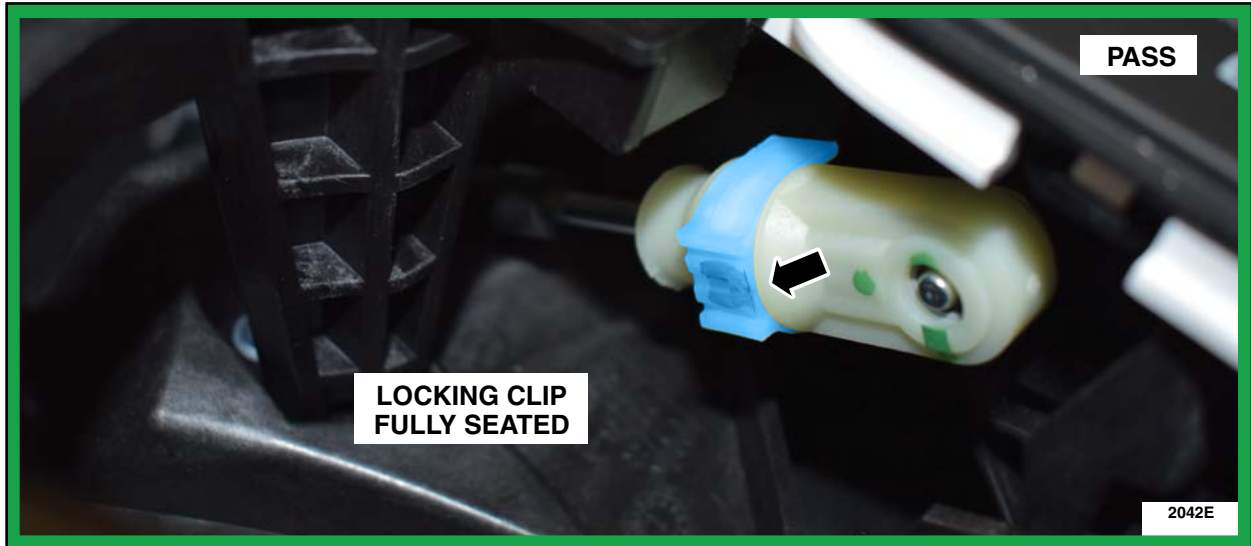

FIGURE 8
9. Inspect the selector lever cable adjuster locking clip to ensure it is fully seated. See Figures 8 and 9.
- If the cable adjuster locking clip is fully seated as shown in Figure 8, proceed to Step 10.